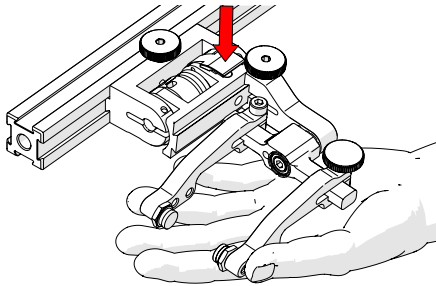

Fig. 141 - Lift slightly and press Latch
2. Lift the probe holder slightly and press the latch button (Fig. 141) to release the probe holder the full 45° degrees.